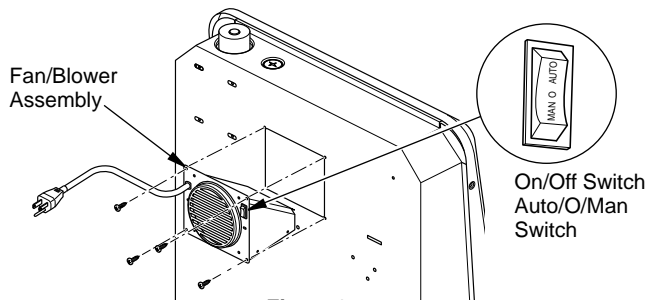

Figure 2
1. Attach fan/blower to the rear panel of the heater using the four screws provided (see Figure 2).
To operate in Manual mode, turn on/off switch to the ON position. To operate in Automatic mode turn AUTO/O/MAN to the desired position, Man position will remain constantly on. Auto position will be controlled by the sensor on fan blower unit. To stop the operation, turn unit switch to the O position (see Figure 2).